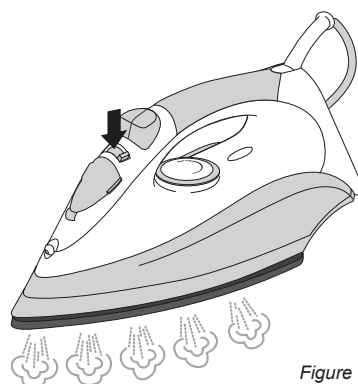

Figure 4
5. Use the steam-control dial to adjust the quantity of steam to the required level (see Figure 4).
7. You can use the steam shot function by pressing the steam function knob (6) .